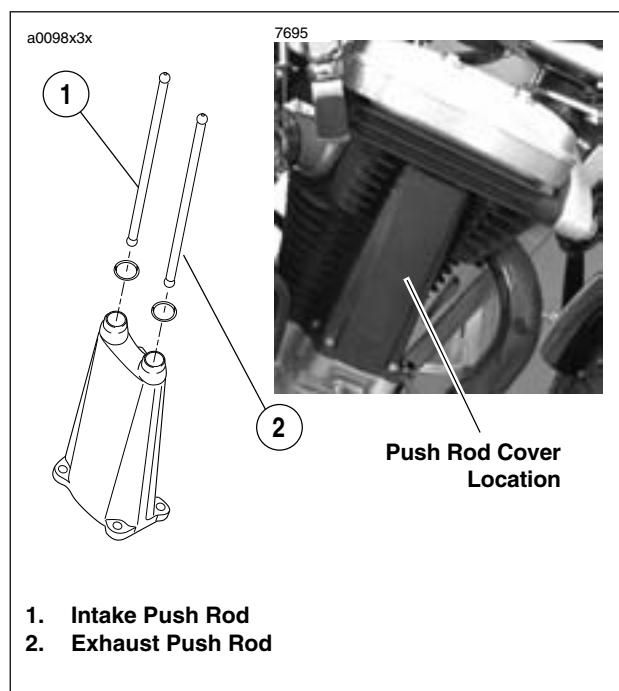

Figure 3-64. Push Rod Locations
13. See Figure 3-64. See Table 3-7. Identify push rod color coding, length and respective push rod positions in